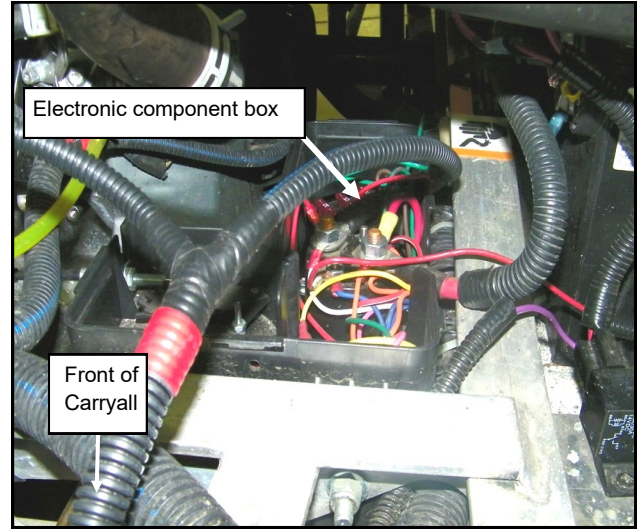

Figure 5.2
- 5.2 Remove the screw that secures the cover to the electronic component box in the compartment under the driver's seat as shown. Retain the screw and cover for reinstallation. (Figure 5.2).